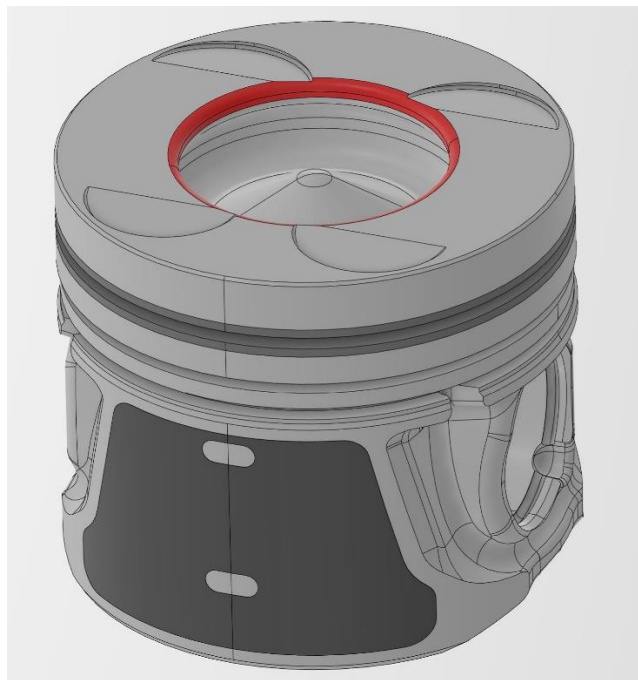

Fig. 1
2. Use a borescope to examine the piston top for cracks, paying particular attention to the area marked in red in Fig. 1.